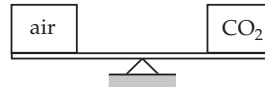

FIGURE P2.5.
5. Air is collected in a  $1.2 \text{ m}^3$  container and weighed using a balance as indicated in Figure P2.5. On the other end of the balance arm is  $1.2 \text{ m}^3$  of  $\text{CO}_2$ . The air and the  $\text{CO}_2$  are at  $27^\circ\text{C}$  and atmospheric pressure. What is the difference in weight between these two volumes?